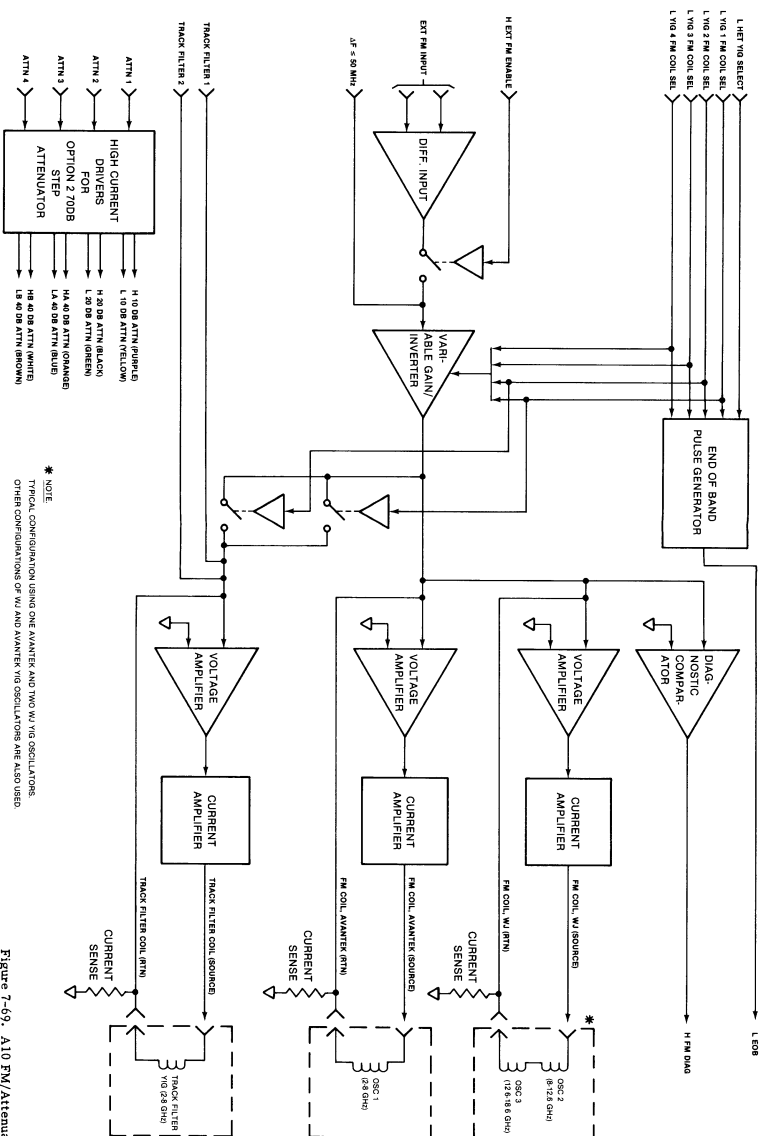

Figure 7-69. A10 FM/Attenuator PCB Functional Block Diagram
The A10/FM Attenuator PCB has two primary functions. The PCB generates currents that control (1) FM modulation for the YIG oscillators, (2) drive for the 2 to 8 GHz YIG tracking filter, and (3) operation of the optional 70dB or 110dB Step Attenuator. In addition, this PCB generates the End of Band (EOB) signal that is used on the A2 PCB (paragraph 7-9.1). A functional block diagram of the A10 circuitry is shown in Figure 7-69; the schematic diagram (2 sheets) is shown in Figure 7-70.
The FM input enters this PCB on either the **EXT FM INPUT** signal line, the  **$\Delta F \leq 50$  MHz** signal line, or on both concurrently (Figure 7-69). The  **$\Delta F \leq 50$  MHz** signal line is from the A5 Frequency Instruction PCB. If a delta-frequency sweep mode ( $\Delta F F0$ ,  $\Delta F F1$ ) has been selected and the sweep width ( $\Delta F$ ) is 50 MHz or less, this input is a voltage ramp. As described in paragraph 7-12.1, the amplitude of this ramp depends on the sweep width. For a sweep width of 50 MHz, the amplitude of the ramp is 10 volts (from -5V to +5V). For sweep widths less than 50MHz, the amplitude of the ramp is proportionally less than 10 volts.